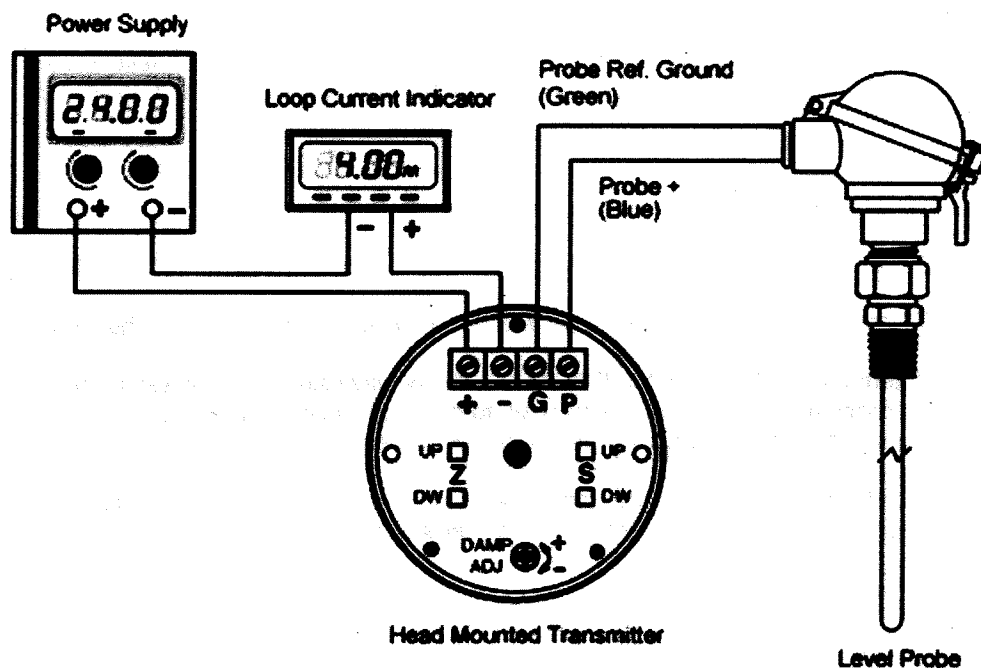

Figure 1. Head Mounted Transmitter
### 2.3.1 Head Mounted Transmitter Connections (Refer Figure 1.)
In order to calibrate the transmitter, you must use the loop current meter (as shown in Figure 1 or 2). It should read in the range of 1.00 to 25.00 mA, with a resolution of 0.01mA. Using a current meter with less resolution will somewhat reduce the calibration accuracy. To calibrate the instrument:
2. Connect the loop current meter as per instructions in wiring section meter (as shown in Figure 1 or 2).